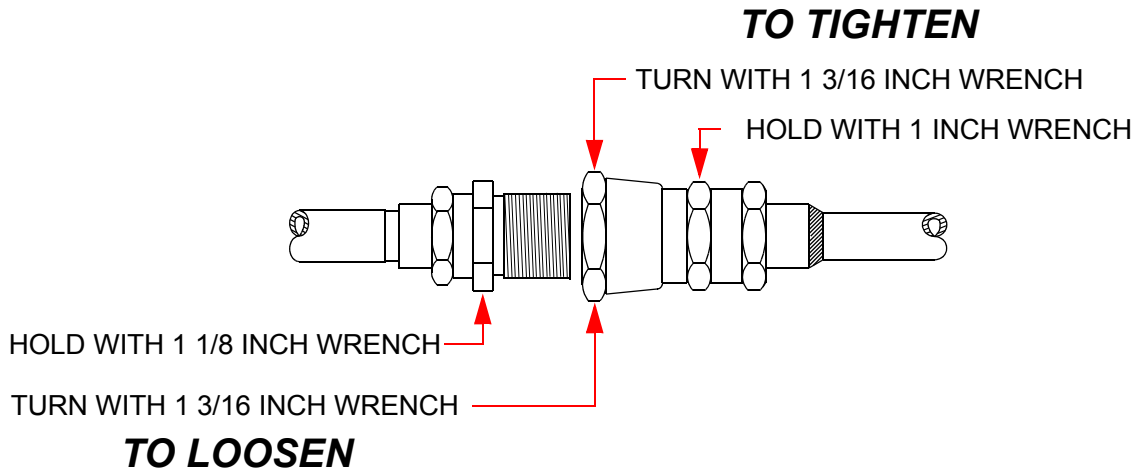

Figure 4-4: Proper Connection/Disconnection Technique for Helium Line Couplings
When connecting or disconnecting helium flex lines, from the 9600 Compressor, use the following procedure and Figure 4-4. Failure to follow this procedure could damage O-ring seals or cause a helium circuit leak.
2. Connect the Gas Return line to the GAS RETURN connector on the rear of the High Capacity Helium Compressor and then to the GAS RETURN connector on the system helium manifold as shown in Figure 4-4. Tighten the connector.
3. Connect the Gas Supply line to the GAS SUPPLY connector on the rear of the High Capacity Helium Compressor and then to the GAS SUPPLY connector on the system helium manifold as shown in Figure 4-4. Tighten the connector.